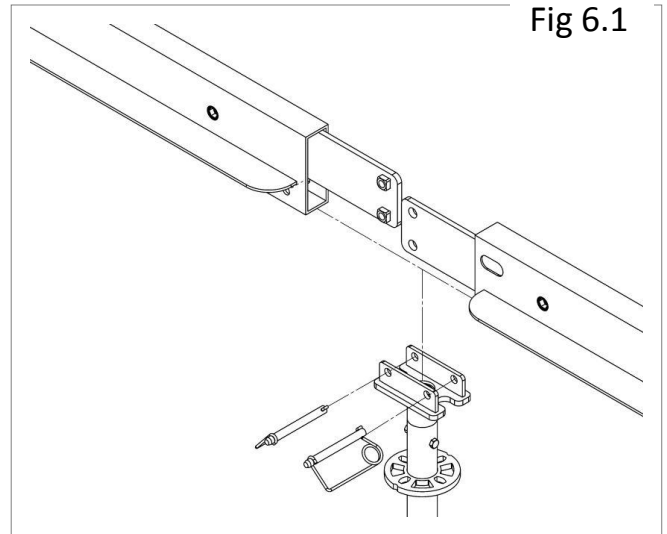

Fig 6.1
- B. Place the appropriate length Universal Beams on the saddles, and secure with pins. See figure 6.1.